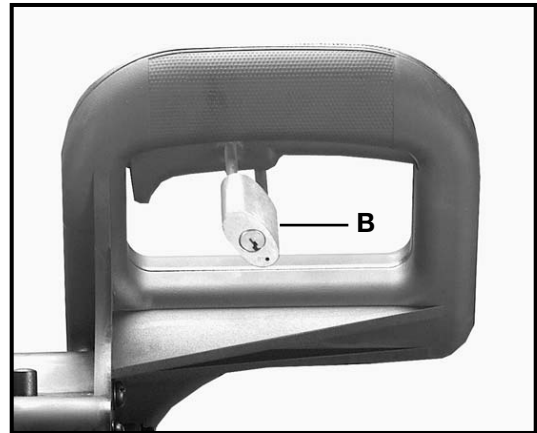

Fig. 11
9. Position lock handle (M) Fig. 11, on stud and replace screw and spring (L) that were removed in **STEP 7**. **NOTE:** Lock handle (M) is spring-loaded and can be repositioned by lifting up on handle.
**IMPORTANT:** When the miter saw is not in use, the switch should be locked in the OFF position using a padlock (B) Fig. 11, with a 3/16" diameter shackle to prevent unauthorized use of the saw.